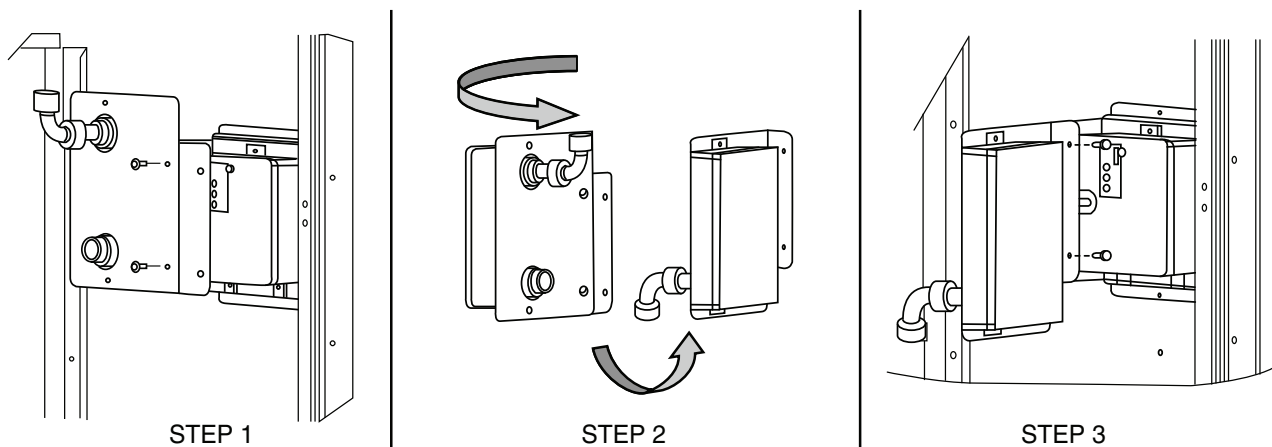

Fig. 61 — Completing Installation of Return Air Smoke Sensor
1. Unscrew the two screws holding the Return Air Smoke Detector assembly. See Fig. 61, Step 1. Save the screws.
2. Turn the assembly 90 degrees and then rotate end to end. Make sure that the elbow fitting is pointing down. See Fig. 61, Step 2.
3. Screw the sensor and detector plate into its operating position using screws from Step 1. See Fig. 61, Step 3.